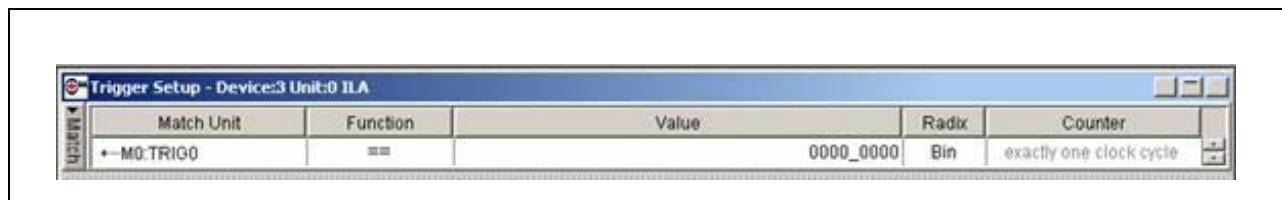

Figure 147: Trigger Setup
7. Setup Trigger. In the Trigger Setup window, shown in Figure 147 on page 219, change the current XXXX-XXXX value with 0000-0000. Once the counter hits 0, Chipscope starts capturing values. Earlier, the buffer was setup to 512, so 512 data points can be visualized in Chipscope. Re-capture the data.